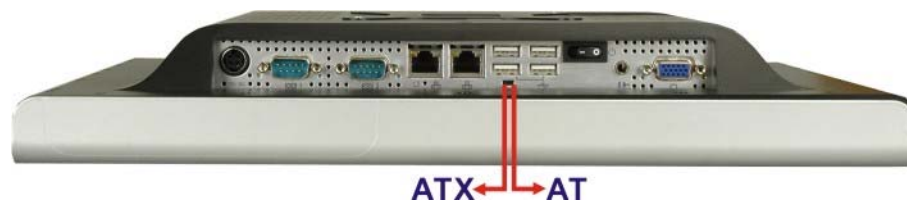

Figure 4-5: AT/ATX Switch Location
AT and ATX power modes can both be used on the AFL-15A-N270 series. The selection is made through an AT/ATX switch on bottom panel (**Figure 4-5**). To select AT mode or ATX mode, follow the steps below.
Step 1: Locate the AT/ATX switch on the bottom panel (**Figure 4-5**).